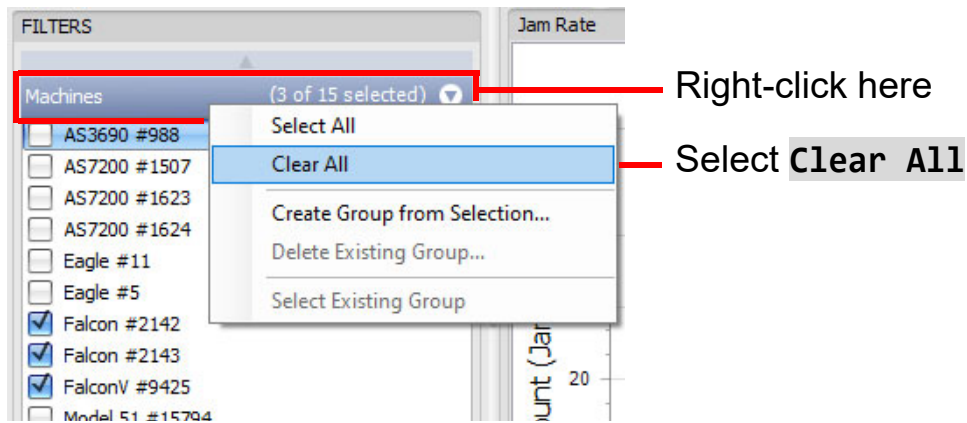

Figure 5-11: Machines pop-up window
4. Right-click in the **Machines** heading (Figure 5-11).